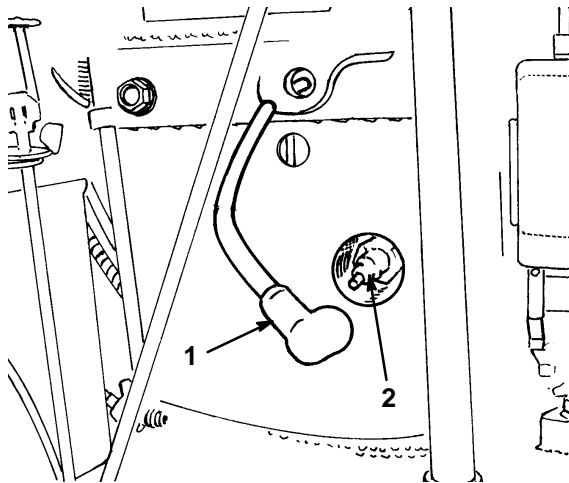

Figure 9
2. Pull the wire off the spark plug (Fig. 9).
3. Push the wire(s) onto the spark plug(s) (Fig. 9).